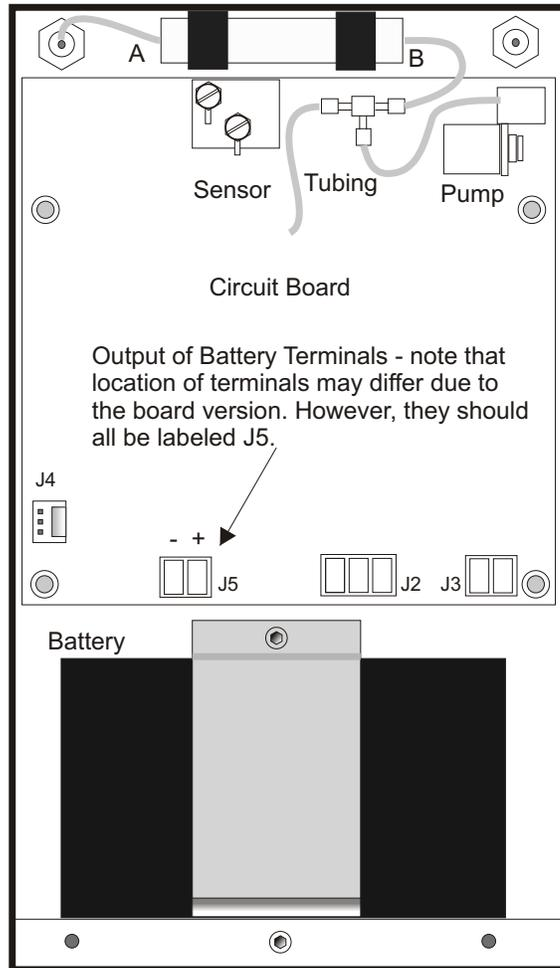

Figure 6.1: Battery Test Points
2. Remove the rear cover to the Model 921A, check the voltage across the terminals at J5, and record the voltage. (Locate J5 on the bottom-left of the circuit board in Figure 6-1).